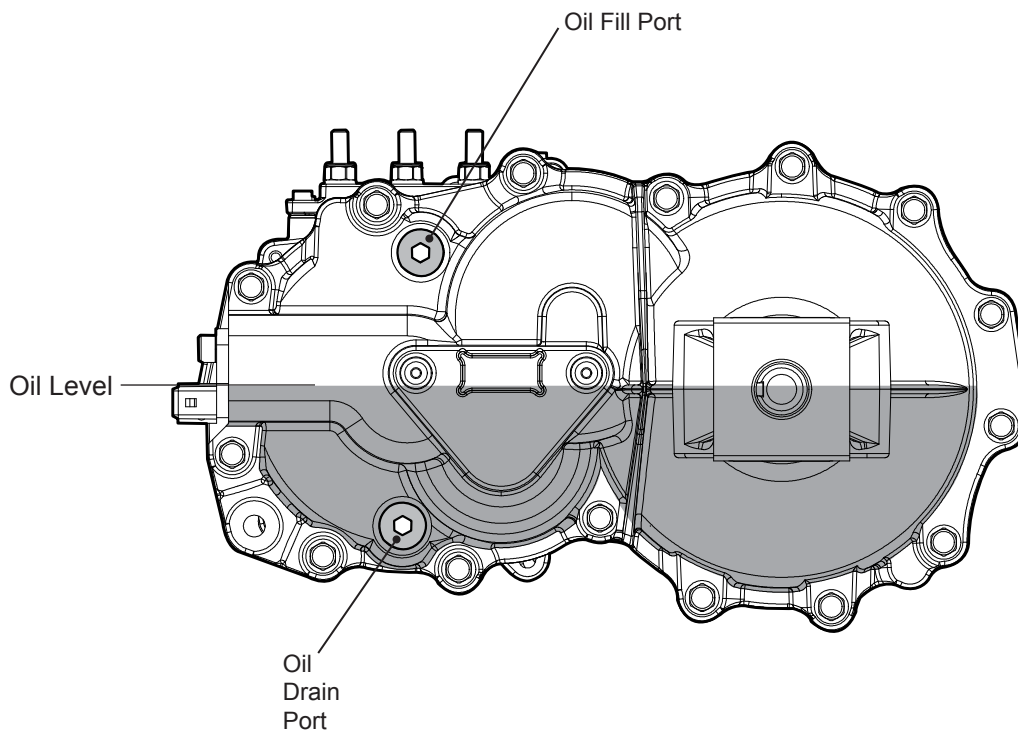

Figure 6. Oil Volume
2. Check oil level in accordance with Figure 6 Page 15.
Certain situations may require additional fluid to be added or even replaced. Refer to Figure 6, Page 15 and page 3 for the proper fill port location.